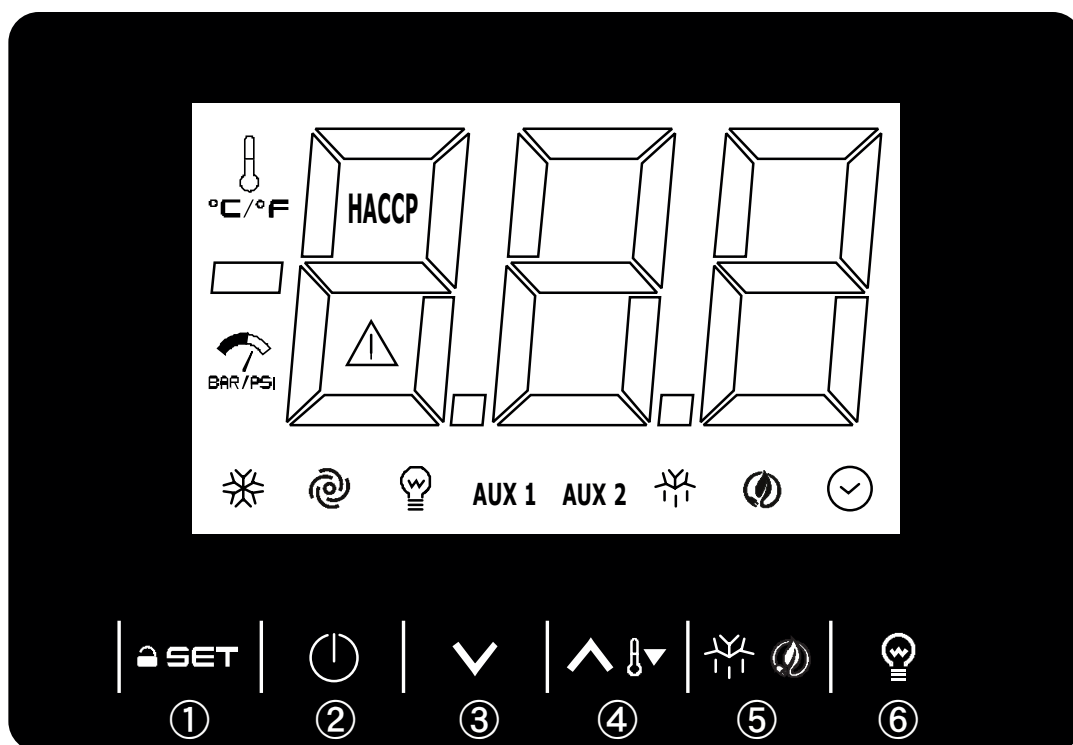

Fig.3
9.1 Description of the controls and buttons (Fig. 3)
**Start-up sequence (fig.3).**
**9.2.2 Stopping methods (fig.3)**
▶ press the on-off button (1) for 3 seconds	the display and the cabinet will turn off
**9.2.3 adjustment of the internal clock to the current time (fig. 3)**
🔑 9.2.4 Setting the temperature (Fig. 3)
🔑 9.2.5 Automatic and manual defrost (Fig. 3)
9.2.6 Keypad lock (fig.3)
9.2.7 Turning the light on / off (fig. 3)